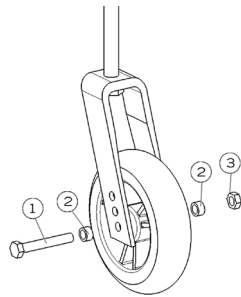

Fig. 27
- Loosen nut (3) and remove bolt (1) (Fig. 27).
- Place spacers (2) between the caster and the fork.
- Tighten nut (3) firmly.